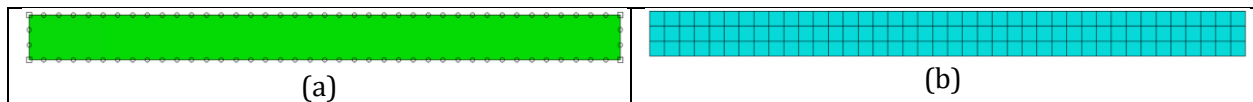

Figure 2-25 – (a) The Seeded part instance and (b) part instance showing the resulting mesh.
3. In the **Global Seeds** dialog box, enter an approximate global size of **50** (mm) and click **OK**. Abaqus/CAE applies the seeds to the part, as shown in Figure 2-25(a).
5. Click **Yes** in the prompt area to confirm that you want to mesh the part instance. Abaqus/CAE meshes the part instance and displays the resulting mesh, as shown in Figure 2-25(b).